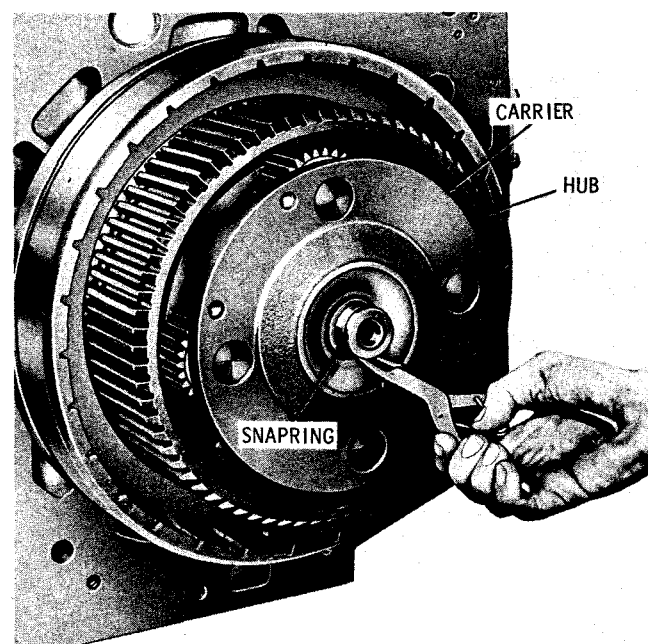

Fig. 7-68. Installing snapping that retains splitter planetary (CT, CLT, VCLT)
(7) Install the splitter planetary carrier assembly and low-splitter clutch hub (assembled in f(19), above) onto the turbine shaft and secure the assemblies with the snapping (fig. 7-68).